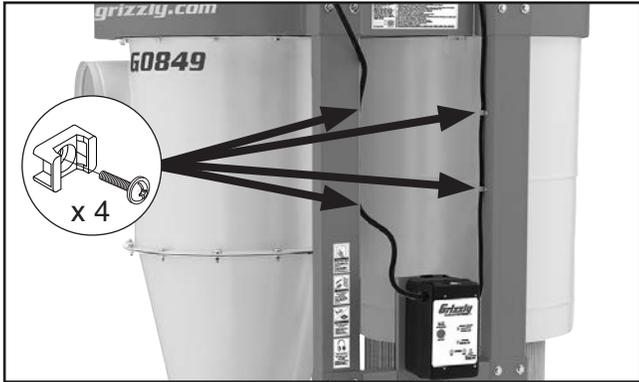

Figure 36. Locations to install conduit mounting blocks.
38. Install (4) conduit mounting blocks in locations shown in **Figure 36** using (4) 10-24 x 1/2" flange screws.